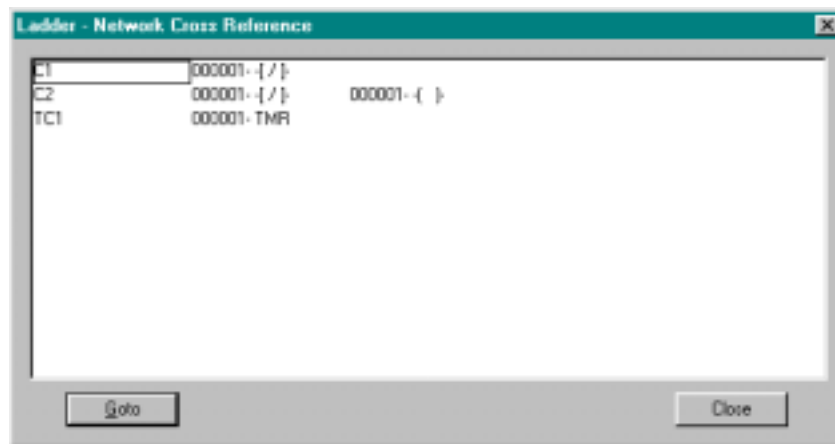

Figure 6.9
1. Position the cursor over the instruction address to cross-reference. Select Network Cross Reference from the View menu. The Network Cross Reference window appears (see Figure 6.9). If you have more than one program loaded, the information displayed is for the program in the active window.